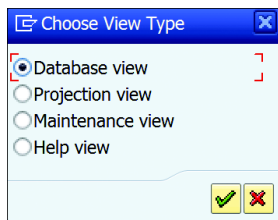

Figure 10.35 View Type
2. A dialog window appears in which you can select the type of view, as shown in Figure 10.35. You're creating a database view here, so select the DATABASE VIEW radio button and click the green checkmark.
2. In the VIEW TYPE window (shown earlier in Figure 10.35), select PROJECTION VIEW.
1. Select MAINTENANCE VIEW in the VIEW TYPE window (see Figure 10.35).